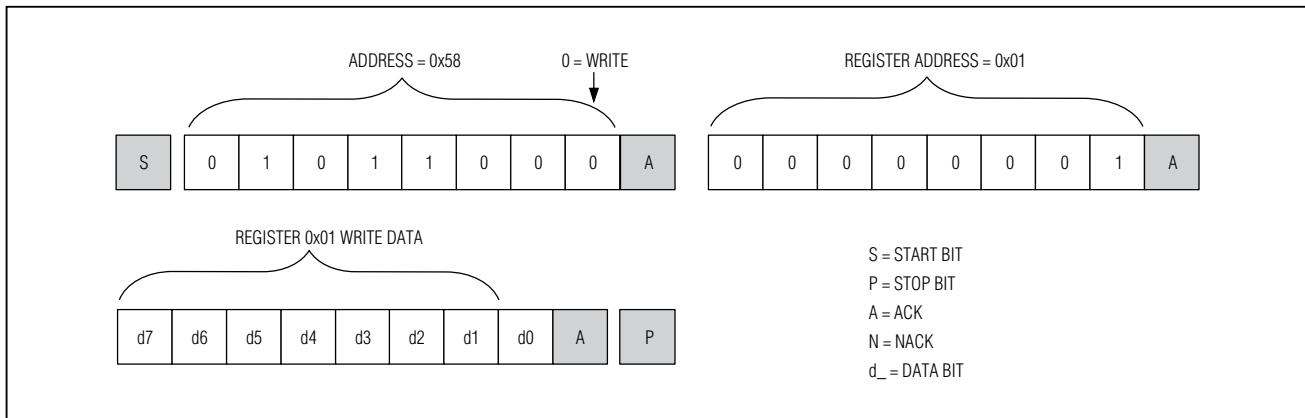
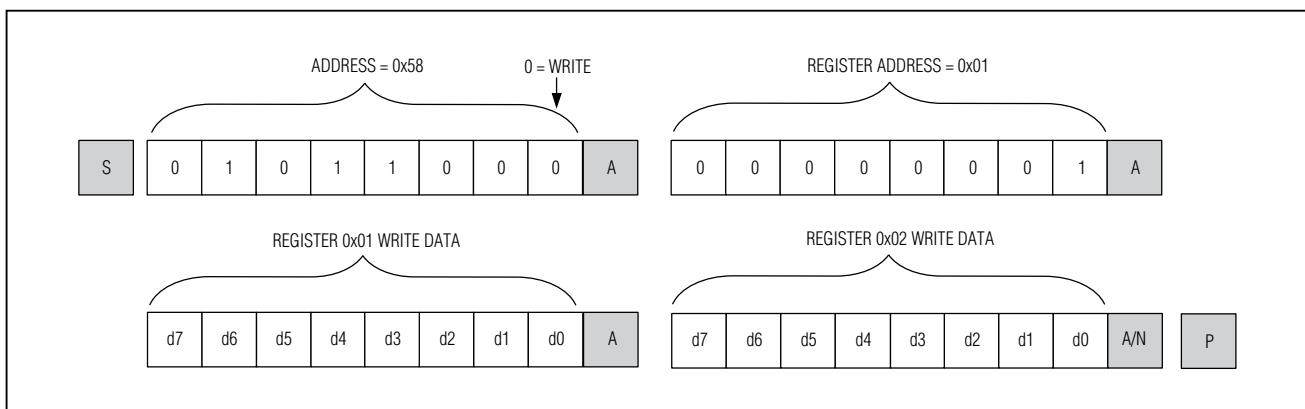

Figure 9. Format for I2C Write
Figure 10. Format for Writing to Multiple Registers
A write to the MAX14578E comprises the transmission of the slave address with the R/W bit set to zero, followed by at least one byte of information. The first byte of information is the register address or command byte. The register address determines which register of the MAX14578E is to be written by the next byte, if received. If a STOP (P) condition is detected after the register address is received, the MAX14578E takes no further action beyond storing the register address (Figure 9). Any bytes received after the register address are data bytes. The first data byte goes into the register selected by the register address, and subsequent data bytes go into subsequent registers (Figure 10). If multiple data bytes are transmitted before a STOP condition, these